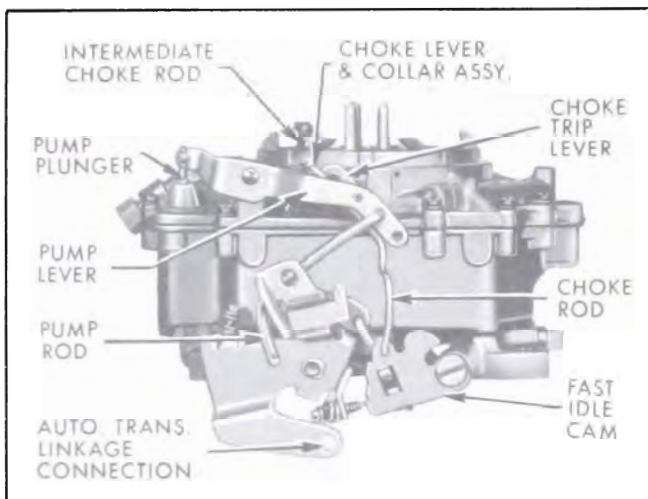

Figure 3-43—Exterior Linkage
1. Remove spring clip from upper end of intermediate choke rod and disengage rod from choke shaft lever. See Figure 3-43.
3. Remove clip from upper end of choke rod. Remove choke trip lever and attaching screw. Remove choke lever and collar assembly from choke shaft. See Figure 3-43.
21. Install choke rod, and choke lever and collar assembly. Install choke trip lever on end of choke shaft with "RP" out and tighten attaching screw. See Figure 3-43.